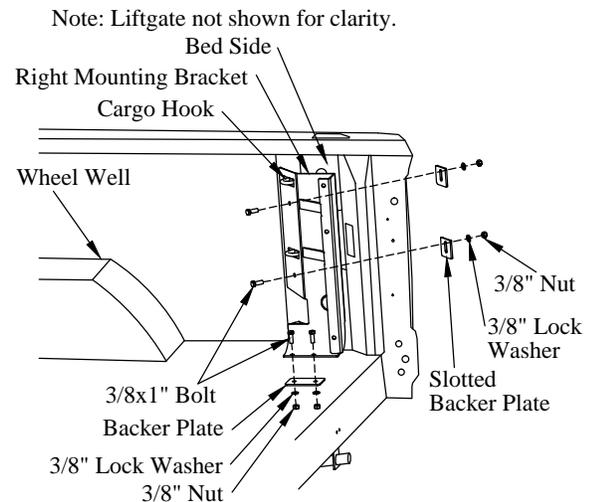

Figure 14: Mounting bracket hardware.
- (3) 3/8" lock washers, and (3) 3/8" nuts on the gusset-side (Figure 14).
8. **Drill** two (2) 3/8" holes into the truck bed floor using the holes in the bracket as a guide (Figure 14).
9. **Fasten** each bracket to the truck bed floor using the supplied (Figure 14):
- (1) backer plate, (2) lock washers, and (2) hex nuts on the under-side.
10. **Drill** two (2) 3/8" holes into the truck bed side near the cargo hooks, using the holes in the bracket as a guide (Figure 14).
11. **Fasten** each bracket to the truck bed side using the supplied (Figure 14):